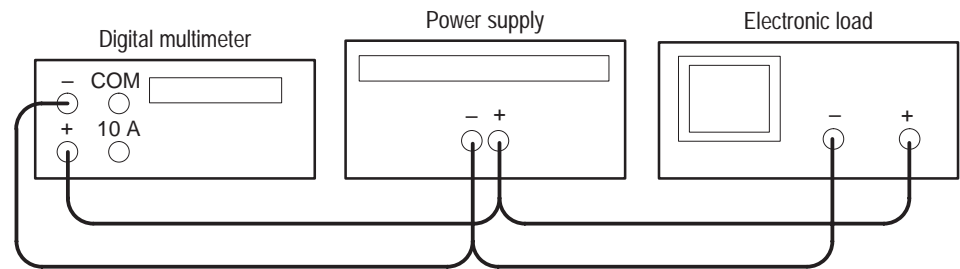

Figure 3: Constant voltage source test setup
2. Ensure that the power supply output is disabled. Connect the DMM and electronic load to the front panel OUTPUT 1 terminals. See Figure 3 for details.
7. Enable the electronic load. Adjust the load until the power supply CURRENT (A) readout indicates 1.500 A.
11. Ensure that the power supply output is disabled. Remove the leads from the front panel OUTPUT 1 terminals and connect them to the front panel OUTPUT 2 terminals. Maintain the equipment configuration and polarities shown in Figure 3.
2. Ensure that the power supply output is disabled. Connect the DMM and electronic load to the front panel OUTPUT 2 (+) and OUTPUT 1 (–) terminals. Maintain the equipment configuration and polarities shown in Figure 3.
2. Ensure that the power supply output is disabled. Connect the DMM and electronic load to the front panel OUTPUT 2 terminals. Maintain the equipment configuration and polarities shown in Figure 3.
2. Ensure that the power supply output is disabled. Connect the DMM and electronic load to the front panel OUTPUT 3 terminals. Maintain the equipment configuration and polarities shown in Figure 3.